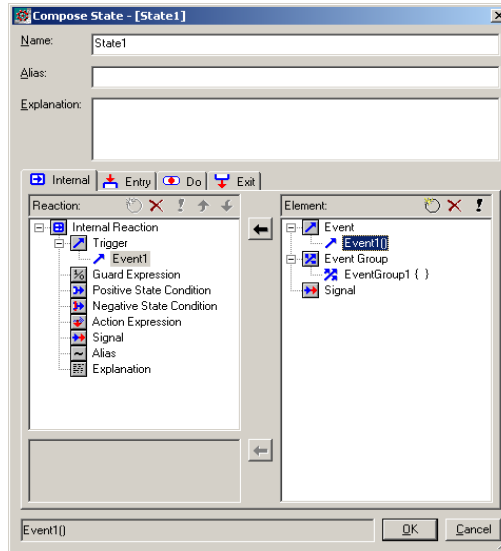

Figure 55: Compose State dialog box, event created and used as trigger
- 7 Double-click the event in the Element section to move it to the Reaction section and apply it to the state reaction. See *Figure 55*, page 72.